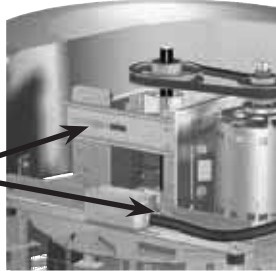

Figure 17
- Belt tension can be adjusted by loosening four fasteners on the drive frame, see *Figure 17*. The motor plate slides on the slotted adjusting arms and drive frame angles in the same manner.